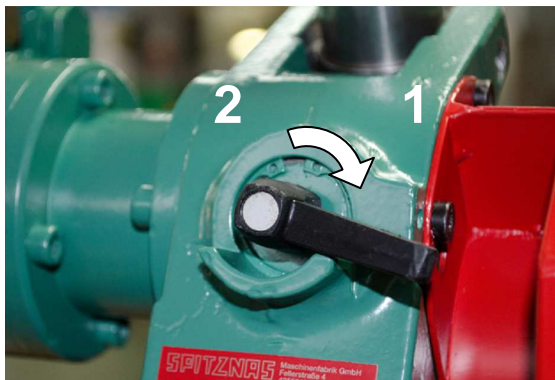
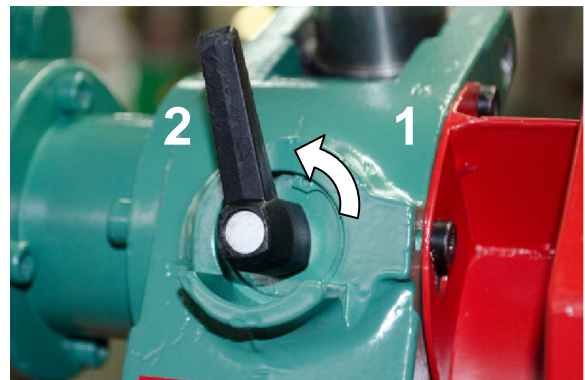

Fig. 5.1
Fig. 5.2
5. Adjust the gear according to the required application (see fig. 5.1 respectively fig. 5.2).